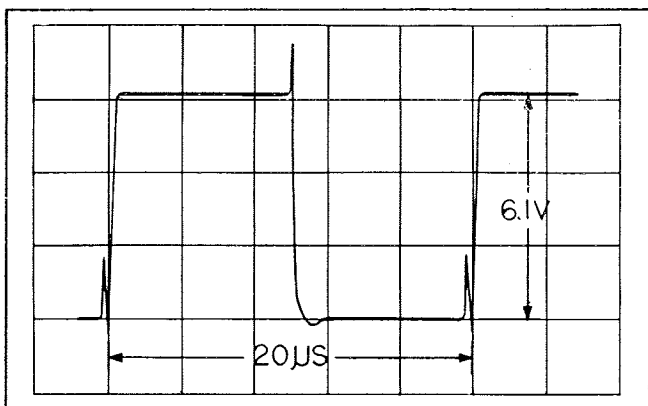

Figure 6.15 - Q7, Collector Waveform
i. Reconnect oscilloscope to collector of 50 KC multivibrator stage Q7 (or top of R21). The observed waveform should resemble the one shown in figure 6.15.